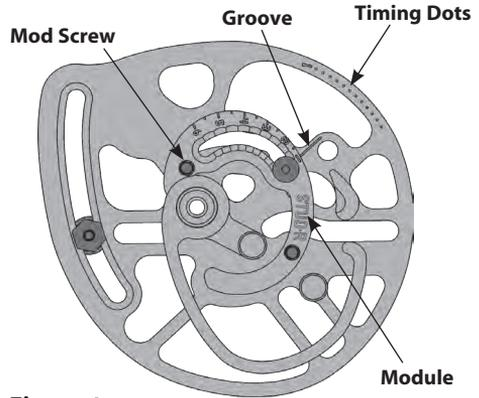

Figure 1
1. Using an Allen wrench, remove the "Module screws" that attach the module to the cam (See **Figure 1**). Note: Depending on your draw length, you may need to press the bow to be able to access all screws for removal.